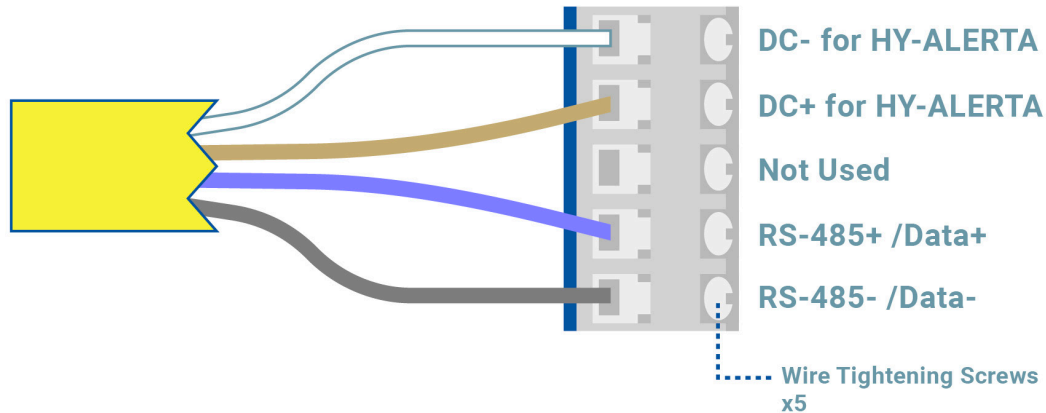

Figure 6: HY-ALERTA Wiring Connections
8. Insert each wire into the slotted opening on the five-pin black terminal block on the PCBA in accordance with the Quick-Start Guide and as illustrated in Figure 6. Insert only the bare wire and not the insulated portion of the conductor.
3. Insert each wire into the slotted opening on the mating connector in accordance with the label on the connector and as illustrated in Figure 6.